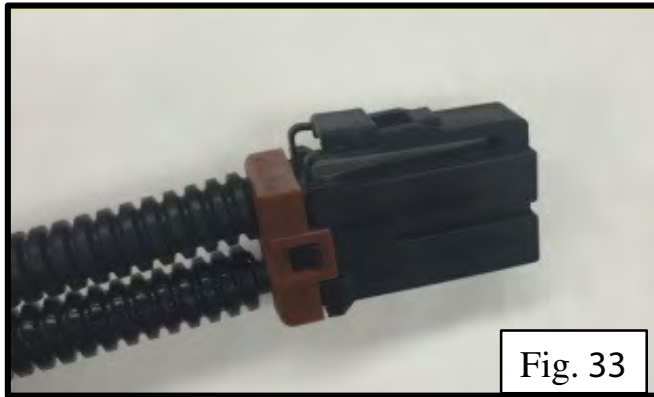

Fig. 33
18. Connect positive wire back into wiring harness connector - terminal is polarized and will only latch in when inserted correctly. Pull back on wire once inserted to test connection. Replace wire retainer on back of connector (Fig.33).